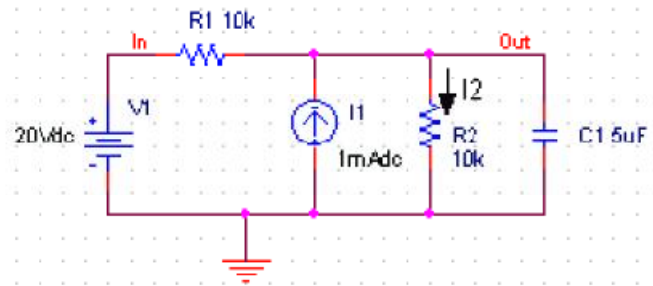

Figure 2. Circuit to be simulated (screen shot from OrCAD Capture)
- g) You can assign names to nets or nodes using the Place Net Alias command (PLACE/NET ALIAS menu). We will do this for the output node and input node. Name these Out and In, as shown in Figure 2.
As mentioned in the introduction, Spice allows you do to a DC bias, DC Sweep, Transient with Fourier analysis, AC analysis, Montecarlo/worst case sweep, Parameter sweep and Temperature sweep. We will first explain how to do the Bias and DC Sweep on the circuit of Figure 2.